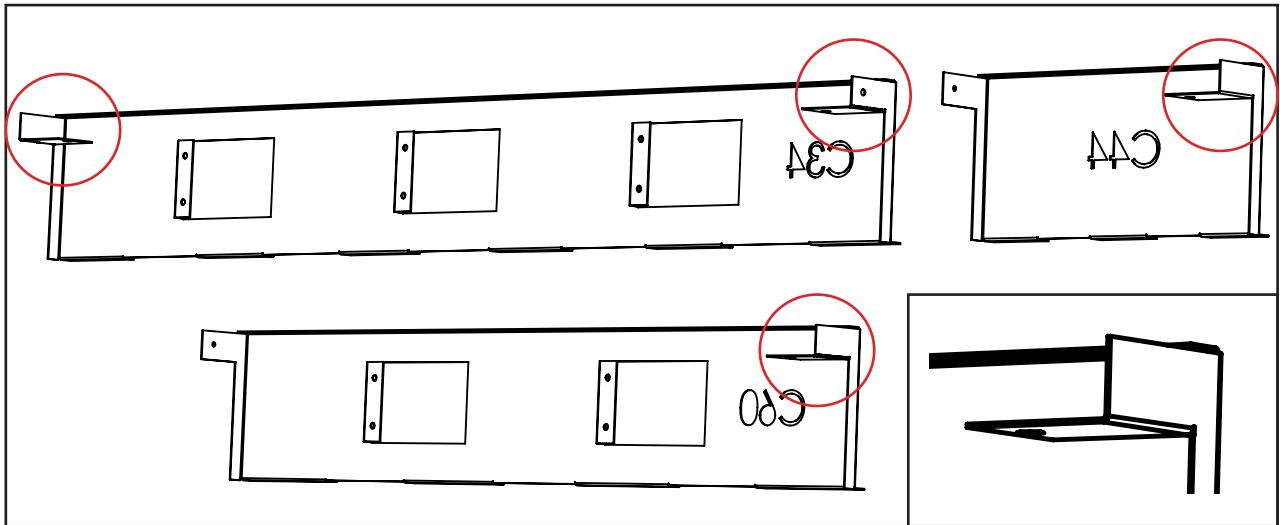

Figure 14. Rear Panel hand bent flanges
Step 2: All the Units use the C34 panel as a base. If installing a C44, use both the C34 and C44 panels. If installing a C60, use both the C34 and C60 panels. Once you have your required panels locate the flanges in the figure 14 below. Bend these flanges inwards 90deg to match the figure 14 below.